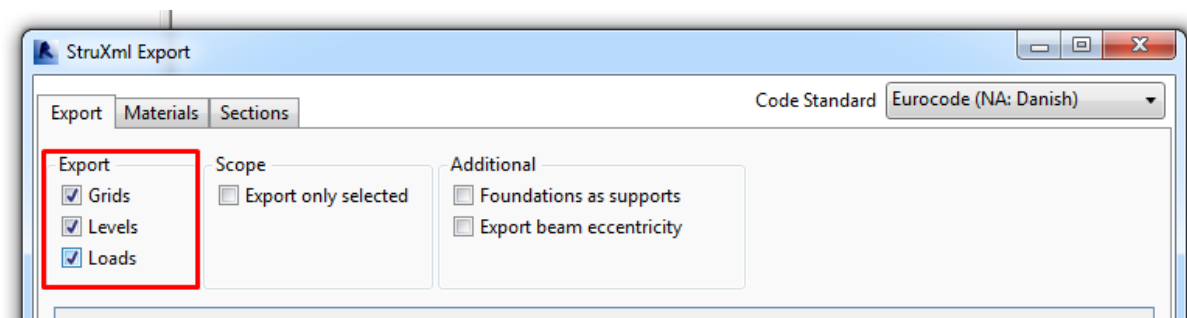

Figure III-23
- If the option to *Export Grids* (Figure III-23) is selected, all the grids will be exported to FEM-Design.
- If the option to *Export Levels* is selected (Figure III-23), all the levels will be exported to FEM-Design.
In order to export loads and load cases one should select the *Loads* to be exported in the *StruXml Export* dialog, as shown in Figure III-23.